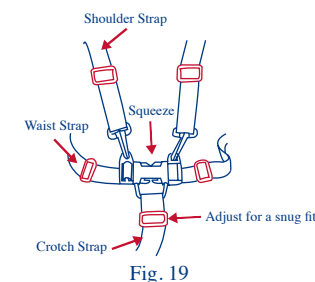

Fig. 19
- Carefully place the child in the stroller seat and bring the safety harness around the child's waist and over the shoulders. Place the crotch strap between the child's legs. Insert the male end of each shoulder/waist belt into the buckle on the crotch strap. Tighten the harness to be snug around the child's waist and over the child's shoulders. Please see figure 19.